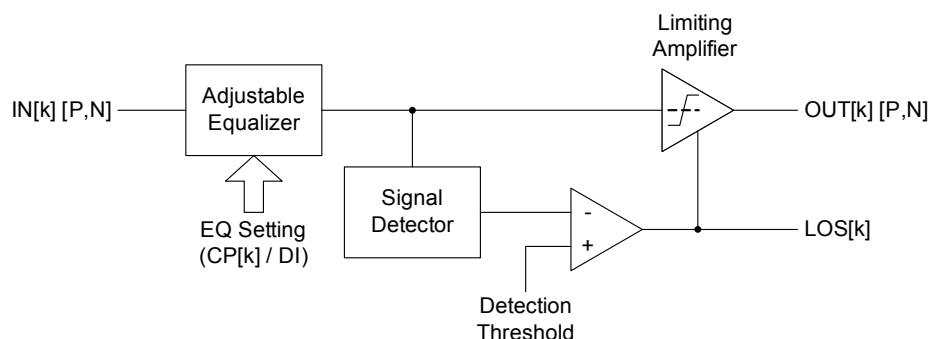

FIGURE 23. FUNCTIONAL DIAGRAM OF A SINGLE CHANNEL WITHIN THE QLX4600-S30
The QLX4600-S30 is an advanced quad lane-extender for high-speed interconnects. A functional diagram of one of the four channels in the QLX4600-S30 is shown in Figure 23. In addition to a robust equalization filter to compensate for channel loss and restore signal fidelity, the QLX4600-S30 contains unique integrated features to preserve special signaling protocols typically broken by other equalizers. The signal detect function is used to mute the channel output when the equalized signal falls below the level determined by the Detection Threshold (DT) pin voltage. This function is intended to preserve periods of line silence (“quiescent state” in InfiniBand contexts).
As illustrated in Figure 23, the core of each high-speed signal path in the QLX4600-S30 is a sophisticated equalizer followed by a limiting amplifier. The equalizer compensates for skin loss, dielectric loss, and impedance discontinuities in the transmission channel. Each equalizer is followed by a limiting amplification stage that provides a clean output signal with full amplitude swing and fast rise-fall times for reliable signal decoding in a subsequent receiver.